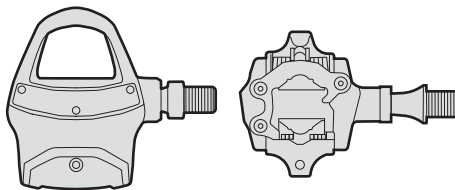

fig . 20b
4. Clipless pedals (fig. 20b) (also called "step-in pedals") are another means to secure feet in a position for maximum pedaling efficiency. They have a plate, called a "cleat," on the sole of the shoe, which clicks into a mating spring-loaded fixture on the pedal. They only engage or disengage with a very specific motion which must be practiced until it becomes instinctive. Clipless pedals require shoes and cleats which are compatible with the make and model pedal being used. Many clipless pedals are designed to allow the rider to adjust the amount of force needed to engage or disengage the foot. Follow the pedal manufacturer's instructions, or ask your retailer to show you how to make this adjustment. Use the easiest setting until engaging and disengaging becomes a reflex action, but always make sure that there is sufficient tension to prevent unintended release of your foot from the pedal.